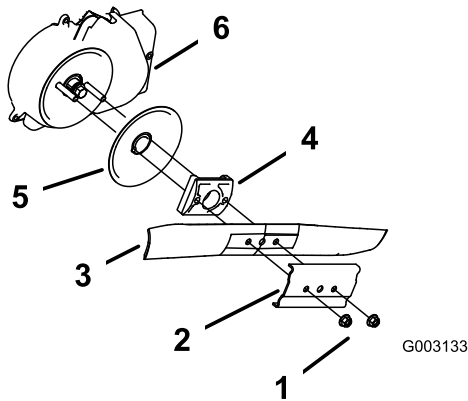

Figure 52
3. Remove the 2 blade nuts and the stiffener (Figure 52).
4. Remove the blade (Figure 52).
5. Remove the blade driver and the anti-scalp disk (Figure 52).
6. Remove the blade-stop system shield (Figure 52).
10. Install the blade and the stiffener with the 2 blade nuts that you previously removed (Figure 52).